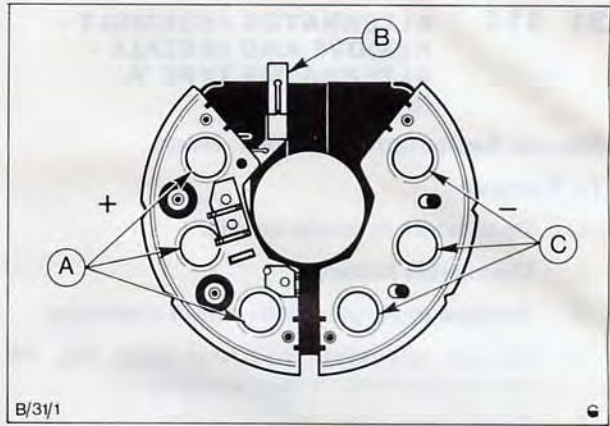
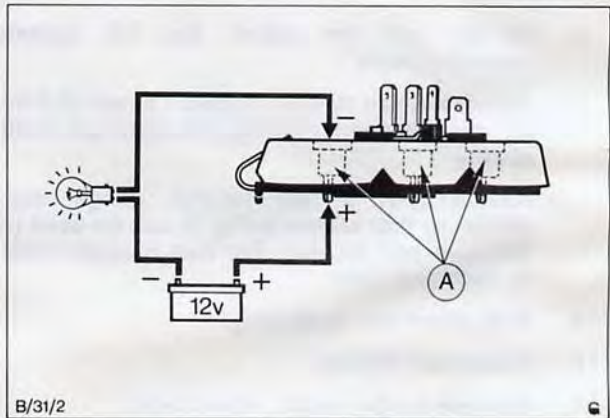
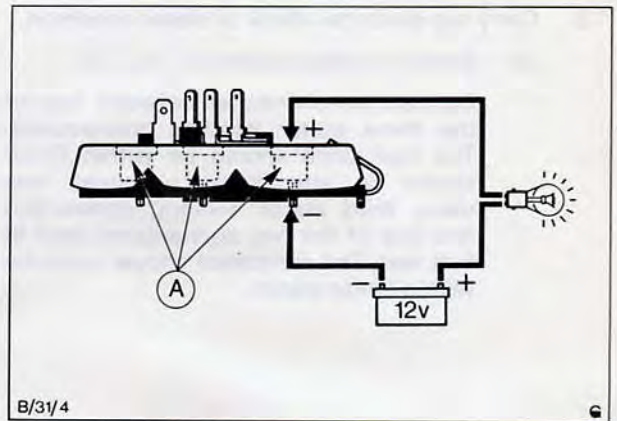

Fig. 17. A – Positive diodes
Fig. 18. A – Positive diodes
Fig. 20. A – Negative diodes
- (a) Connect test equipment to positive section of diode pack, Fig. 17, with negative terminal attached to topside of one of diodes. Connect positive terminal to underside of diode, Fig. 18. If diode is functioning correctly, bulb will light.
11. To check field diodes, connect test equipment as shown in Fig. 20. With negative connection coupled to brush-box terminal and positive connection to diode, bulb will light if diode is operating correctly.
Connect test equipment to negative section of diode pack, Fig. 17, with positive terminal attached to topside of one of diodes. Connect negative terminal to underside of diode, Fig. 20. If diode is functioning correctly bulb will light.